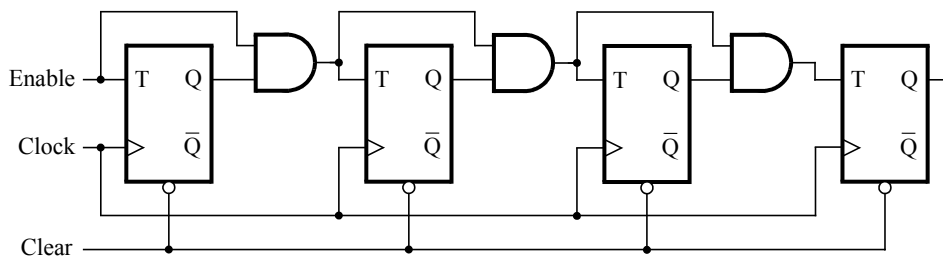

Figure 1. A 4-bit counter.
Consider the circuit in Figure 1. It is a 4-bit synchronous counter which uses four T-type flip-flops. The counter increments its count on each positive edge of the clock if the Enable signal is asserted. The counter is reset to 0 by using the Reset signal. You are to implement a 16-bit counter of this type.
1. Write a VHDL file that defines a 16-bit counter by using the structure depicted in Figure 1, and compile the circuit. How many logic elements (LEs) are used to implement your circuit? What is the maximum frequency, F_{max} , at which your circuit can be operated?